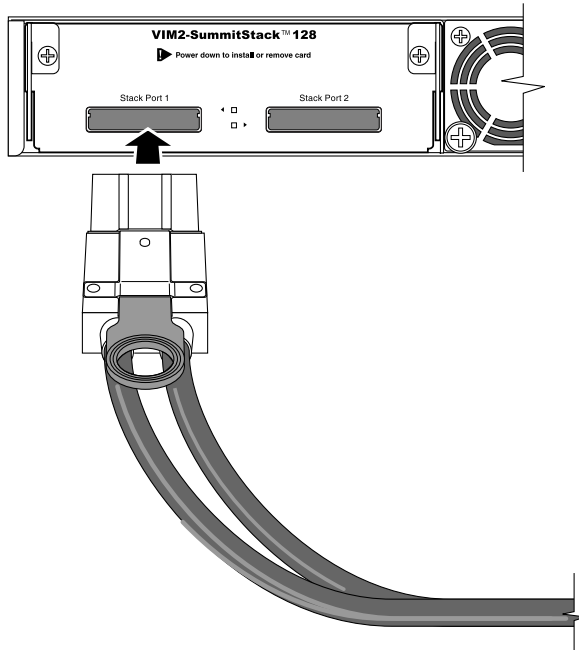

Figure 240: Connecting a SummitStack 64G Cable
1. Holding the cable connector with the release tab on top, align the connector with the stacking port on the VIM2 module in the Summit X480 series switch (see Figure 240).